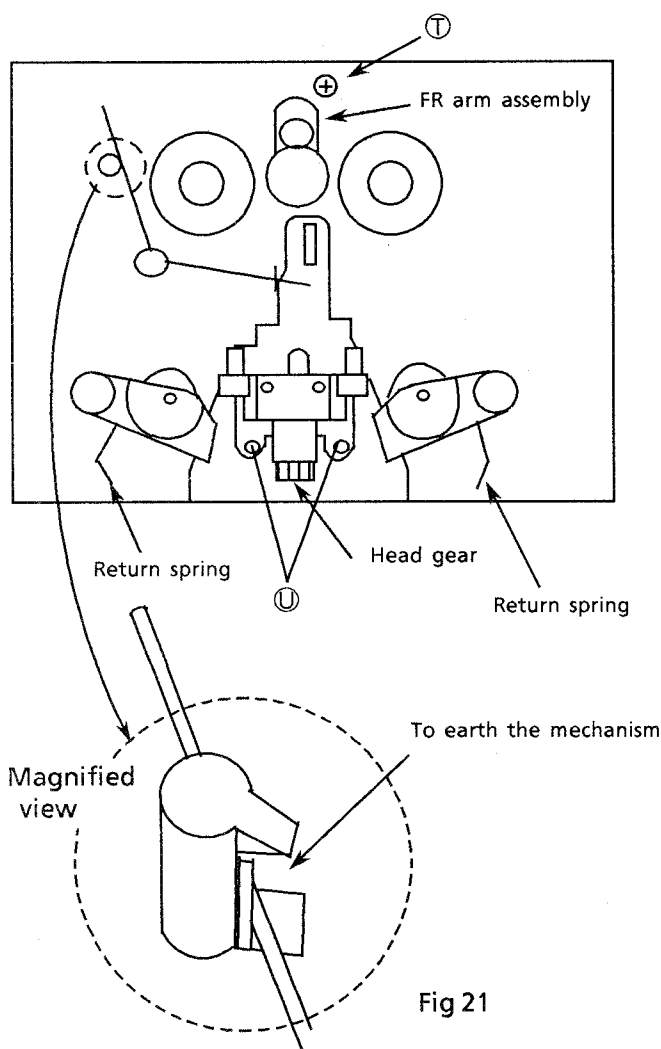

Fig 21
3. Remove the 2 screws ① fixing the head assembly (Fig 21).
1. Release the return spring (Fig 21).
3. Remove the FR arm assembly (Fig 21).
4. Remove the screw ① fixing the motor (Fig 21).